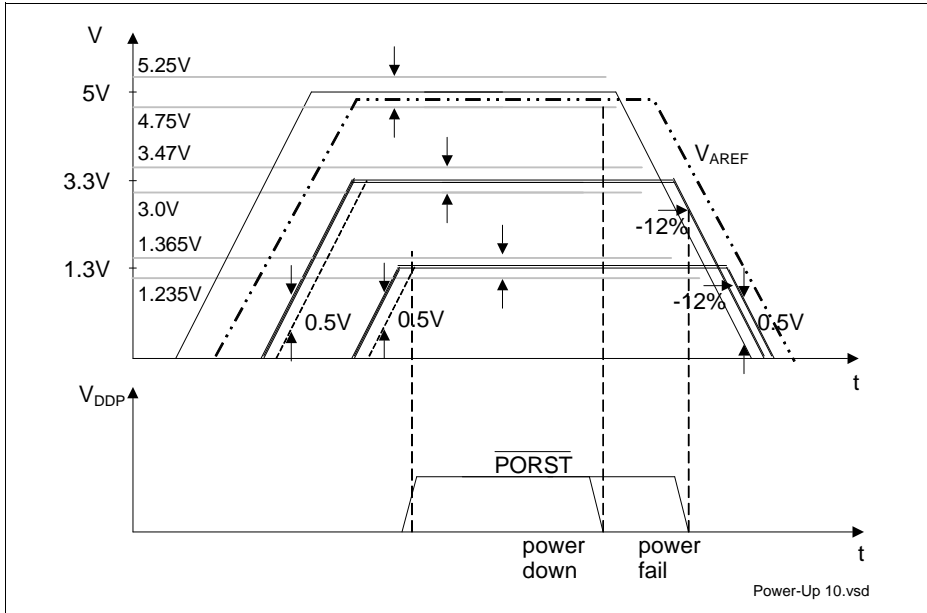

Figure 11 5 V / 3.3 V / 1.3 V Power-Up/Down Sequence
- At any moment in time to avoid increased latch-up risk, each power supply must be higher than any lower_power_supply - 0.5 V, or: $V_{DD5} > V_{DD3.3} - 0.5 \text{ V}$; $V_{DD5} > V_{DD1.3} - 0.5 \text{ V}$; $V_{DD3.3} > V_{DD1.3} - 0.5 \text{ V}$, see Figure 11.